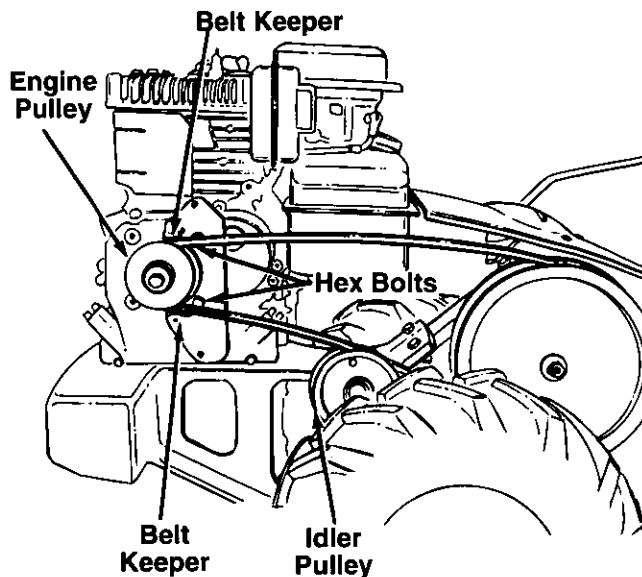

FIGURE 10.
3. Remove the belt keeper assembly located behind the engine pulley by removing two hex bolts and lock washers. See figure 10.
**NOTE:** Upon reassembly, make certain the belt is routed over the idler pulley and inside of belt keepers by engine pulley. See figure 10.